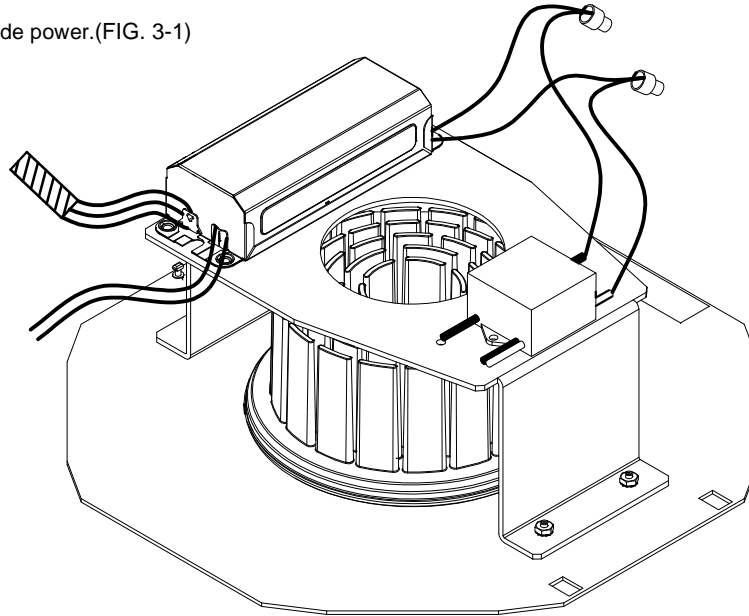

FIG. 3-1
1. Attach all connections to outside power.(FIG. 3-1)